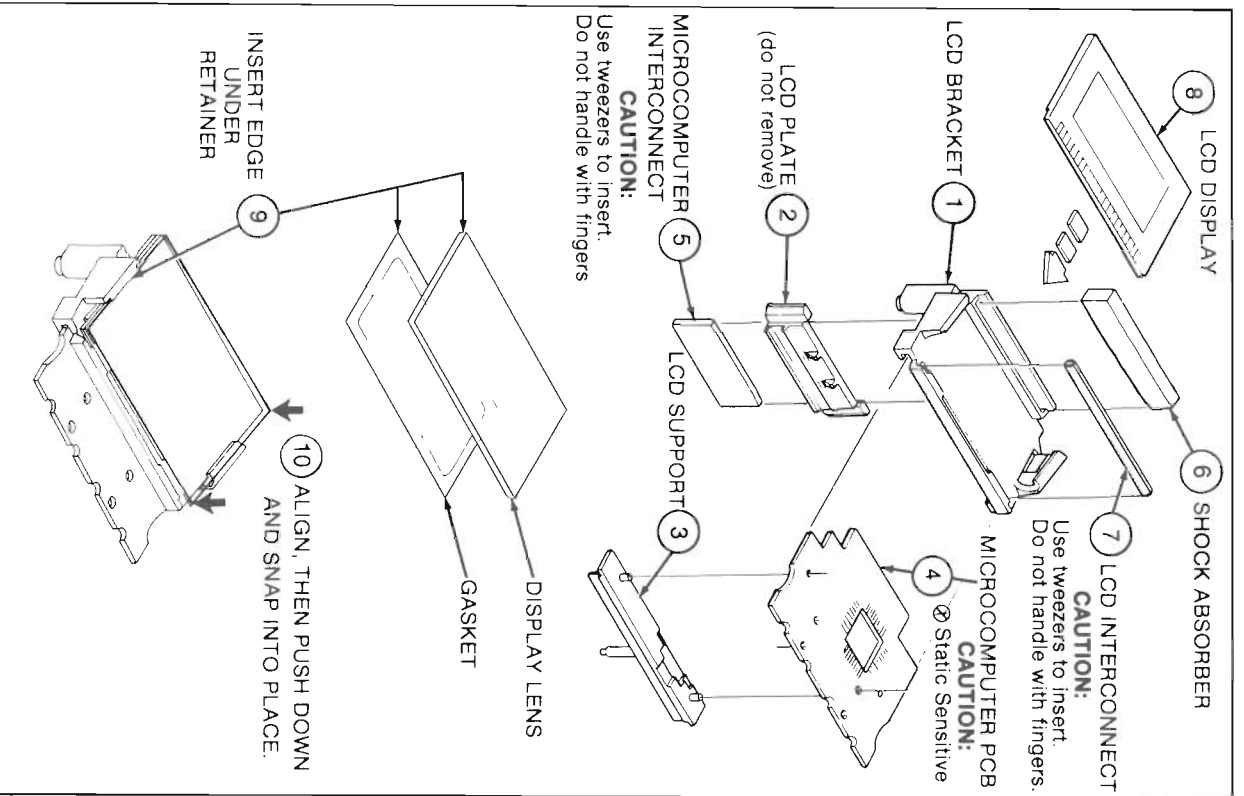

Figure 4-2. Assembling/Disassembling the Microcomputer PCB and LCD
The procedure for disassembling or assembling the LCD and the microcomputer pcb is not difficult, but the steps must be followed in sequence. Before you try the procedure, examine the components in Figure 4-2 and familiarize yourself with the following handling precautions:
- The microcomputer, U5 (item 4 in Figure 4-2), is a static sensitive CMOS device. Follow standard procedures for handling static sensitive devices.
1. Align the LCD display (item 8) as indicated in Figure 4-2 and slide it into place. The bottom edge of the LCD display should compress the LCD interconnect (item 7) and slide underneath the two plastic notches on the LCD bracket (item 1).
2. Refer to Figure 4-2 and follow steps 9 and 10 to complete assembly.
2. Refer to Figure 4-2. Beginning with item 7, remove items 7 through 3 (leave item 2 attached to item 1). Be sure to observe the handling precautions for items 7, 5, and 4.
To assemble the microcomputer LCD, refer to Figure 4-2. Beginning with item 3, assemble items 3 through 7 (in ascending numerical order). Be sure to follow the handling precautions for items 4, 5, and 7.